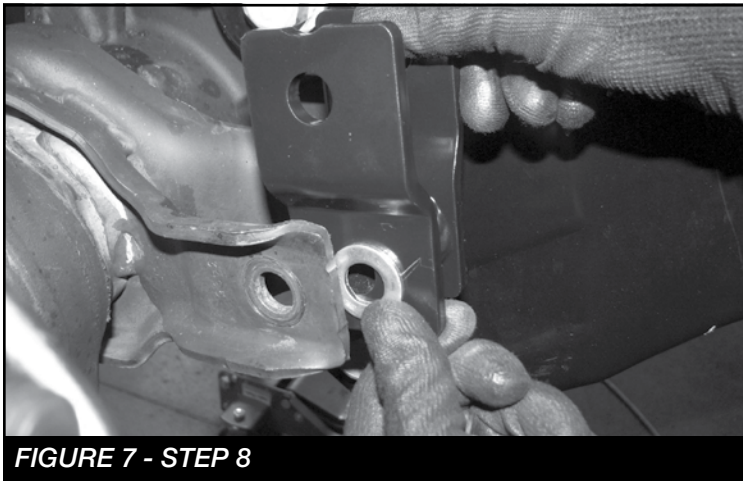

FIGURE 7 - STEP 8
8. Locate the FT30580BK (driver shock extension), using the factory lower shock hardware, install the shock extension into the factory lower shock mount. **NOTE: See figure 7 for proper offset. The offset needs to be going away from the vehicle. Insert a supplied M14 washer between the factory and new Fabtech brackets.** Torque to 160 ft-lbs. **SEE FIGURES 7-8**